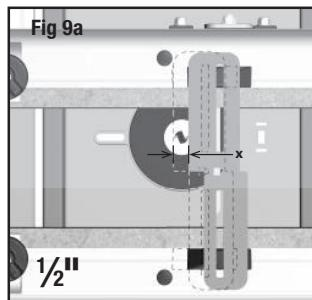

Fig 9a
2. The set up described will result in a half width first finger. The width of the first and last fingers can be adjusted by re-positioning the initial cut stop and its' supports. Move the initial cut stop away from the slider to increase the width of the first finger, or towards the slider to reduce it. Keep the stop within the range marked "X" in Fig. 9a & 9b